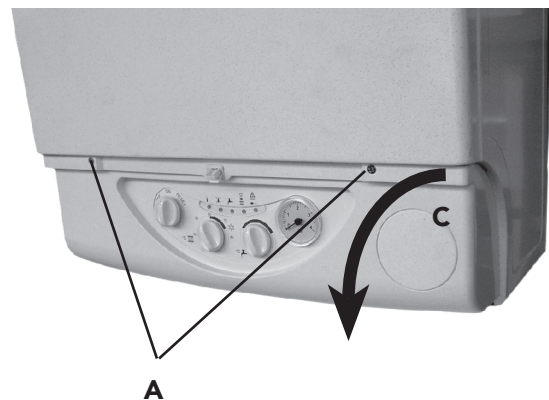

Fig. 29
7.03 To lower the control panel (fig. 29)
- Remove the two fixing screw (fig. 29) "A"